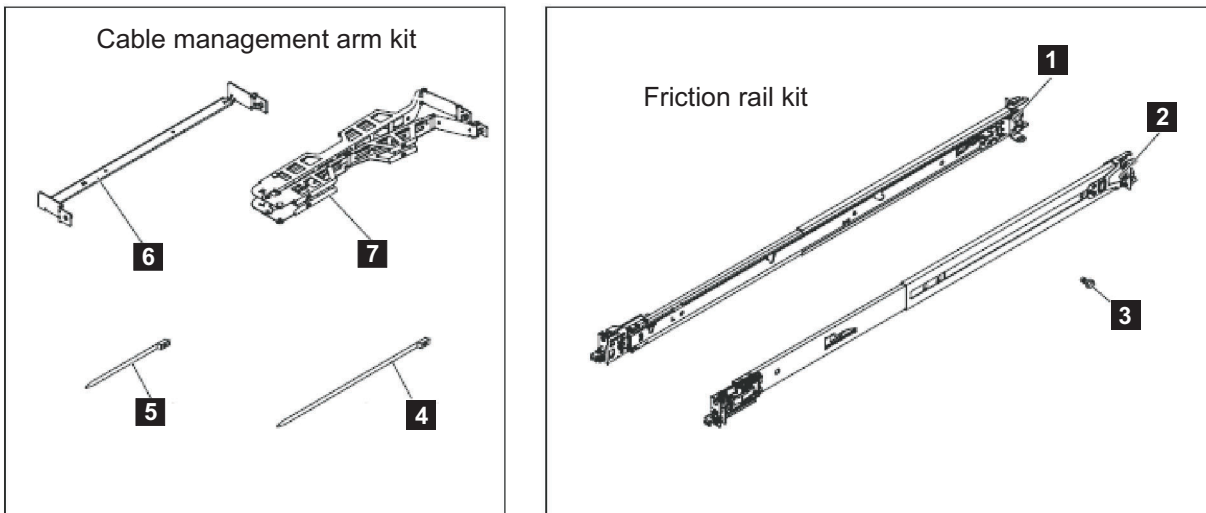

Figure 20. SAN Volume Controller 2145-CG8 cable-management arm, support rails, and associated parts
Figure 20 shows the items that you need to install the SAN Volume Controller 2145-CG8 node in a rack.
1. Verify that you have all the items that you need for installing the support rails and that you have identified the front of each rail, as shown in Figure 20 on page 25.